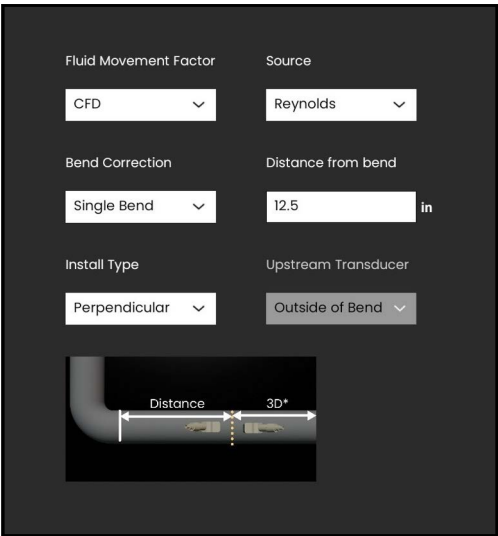

Figure 96: Bend Correction Menu
4. As shown in *Figure 96*, if SINGLE BEND correction is selected, CFD correction factors will be applied to the measured velocity based on the following three configuration parameters DISTANCE FROM BEND, INSTALL TYPE, and UPSTREAM TRANSDUCER.